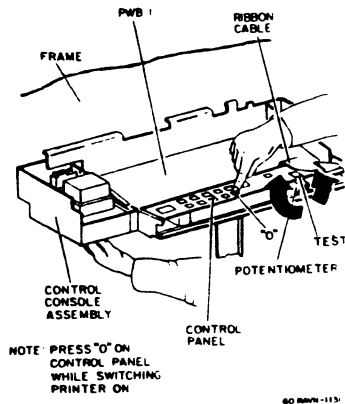

Figure 3. Adjusting the Potentiometer for Fuser
2. ACCESS THE POTENTIOMETER FOR THE CONTROL OF FUSER TEMPERATURE (FIGURE 3).